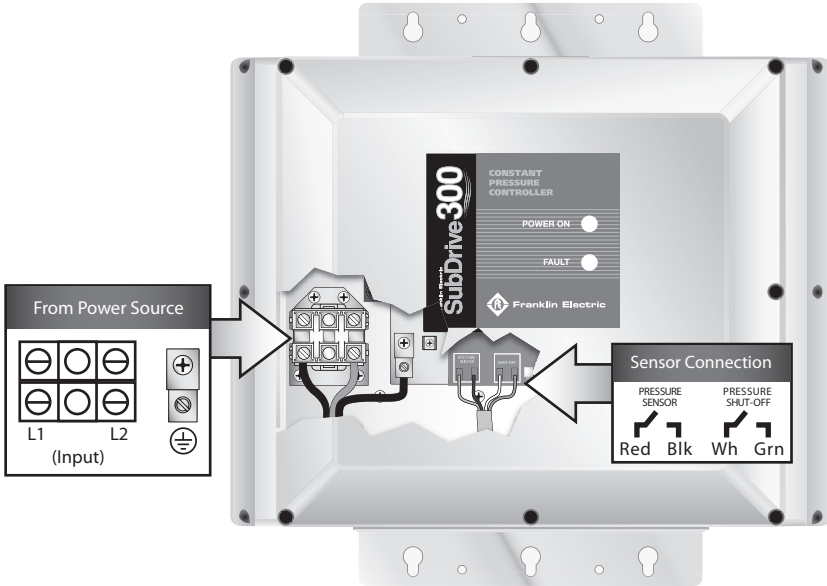

Figure 3: Power and Pressure Sensor Connections
6. Feed the 230 VAC power leads through the bottom left side of the SubDrive300 controller and connect them to the terminals marked L1, L2, and GND (Figure 3).